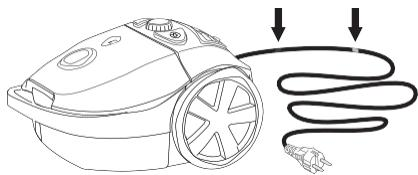

Figure 5 Markings on the power cord
5. The power cord has a yellow and red mark, see Figure 5. Pull out the cord to the yellow mark.